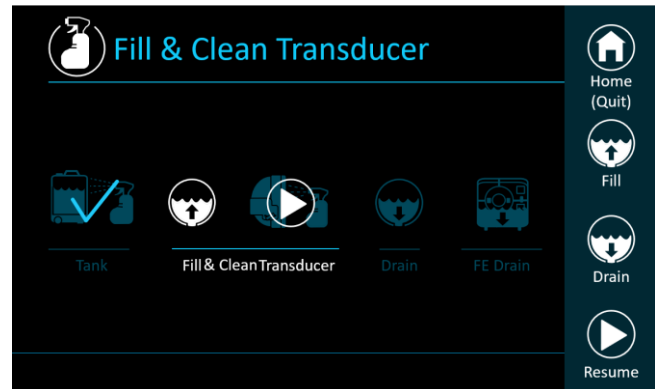

Figure 12-10: 'Fill & Clean Transducer' Screen
Step 14: Once the timer reaches zero, a completion sign appears (**Figure 12-10**) and the system is ready for the next stage of the Cleaning cycle – Fill & Clean Transducer